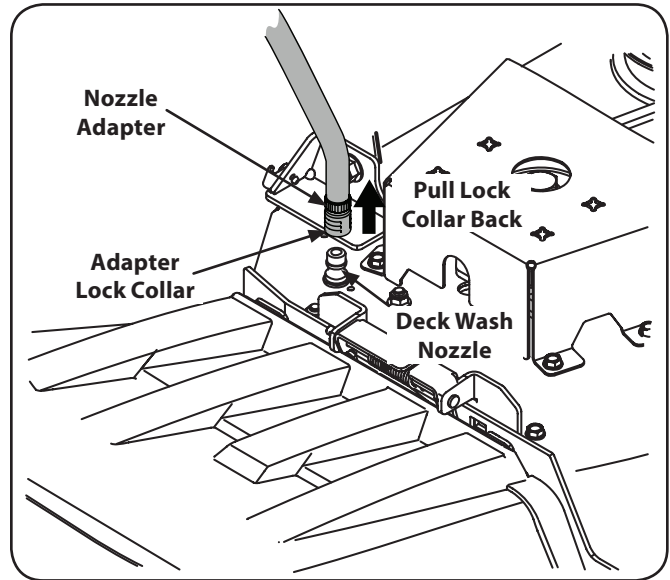

Figure 6-4
3. Pull back the lock collar of the nozzle adapter and push the adapter onto one of the deck wash nozzles at either end of the mower deck. Release the lock collar to lock the adapter on the nozzle. See Figure 6-4.